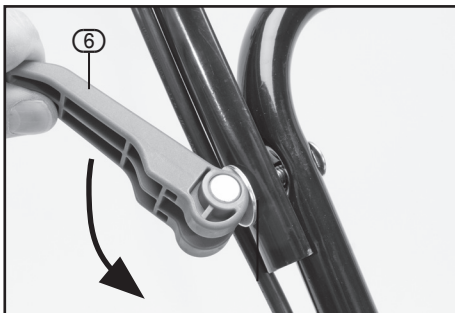

FIG. 4
**8.4 Attach Upper Handle Section - Fig.4**